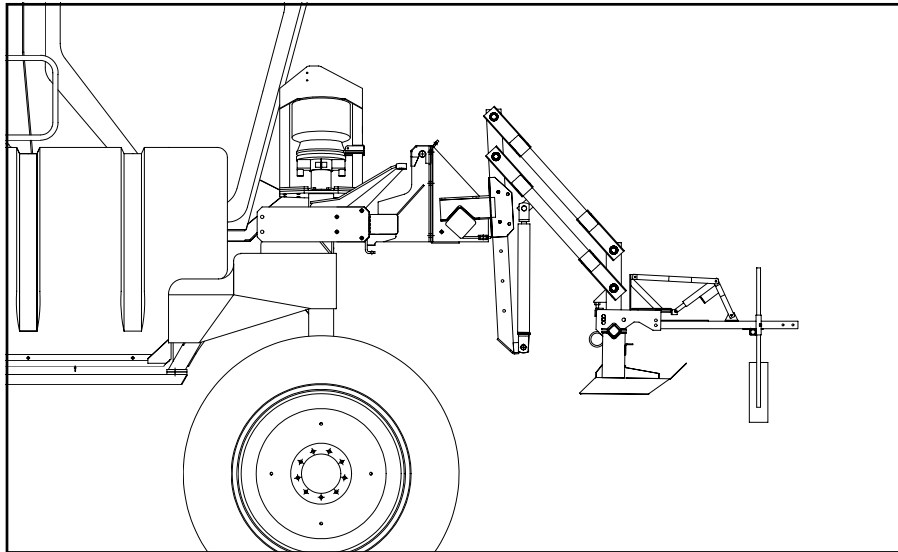

FIG 3.18
1. Attach the cutter head assembly to the tool bar (fig. 3.18).